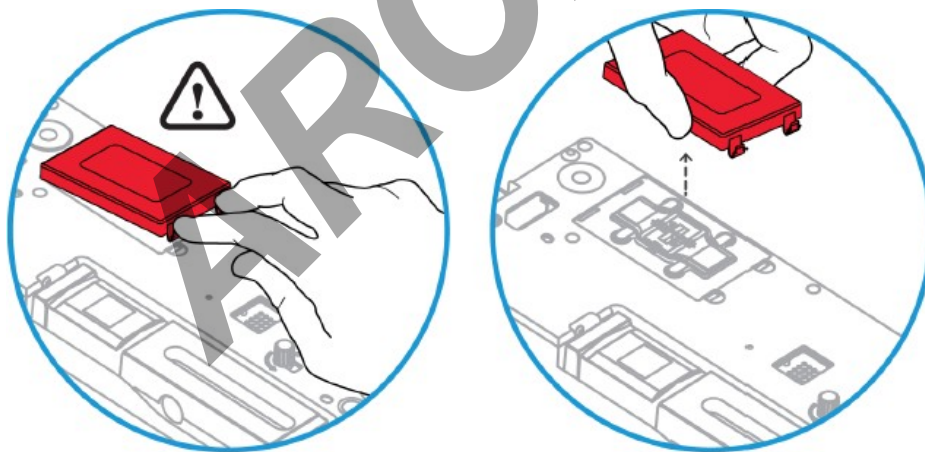

Figure 29. Step five removing the shipping cover from the capillary
15. Step 5: Remove the shipping cover from the capillary by pressing the brackets toward the cover, then swinging the cover up and away from the capillary. Note: The capillary is fragile. Handle with care after you remove the capillary cover. Save the cover piece that is removed (see Figure 29).